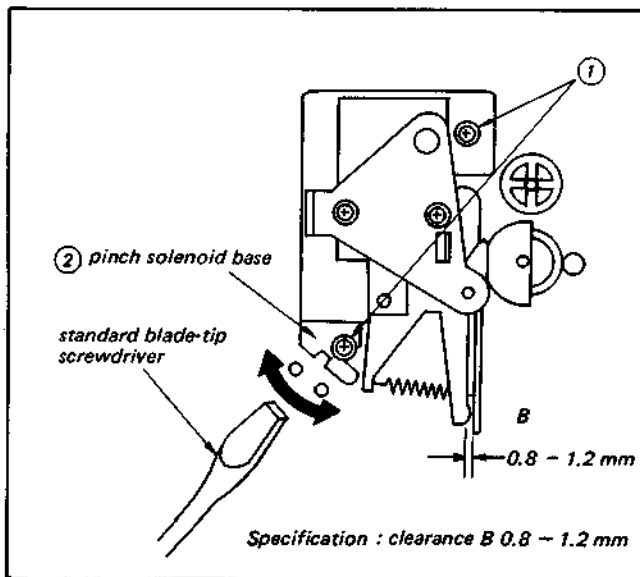

Fig. 3-33. Position adjustment of pinch solenoid
2. Loosen the two screws (1) shown in Fig. 3-33 by 1/3 to 1/2 turns.
4. Insert the standard blade-tip screwdriver as shown in Fig. 3-33. Move pinch solenoid base (2) in the arrow direction so that the specification at section B is satisfied, and tighten the two screws (1).